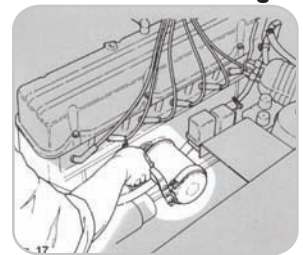

Fig 2
- Remove the oil filter. Clean the filter housing on the vehicle. If necessary remove any of the old gasket that is stuck to either the housing or the spigot on the threaded nipple (Figs 2 & 3)